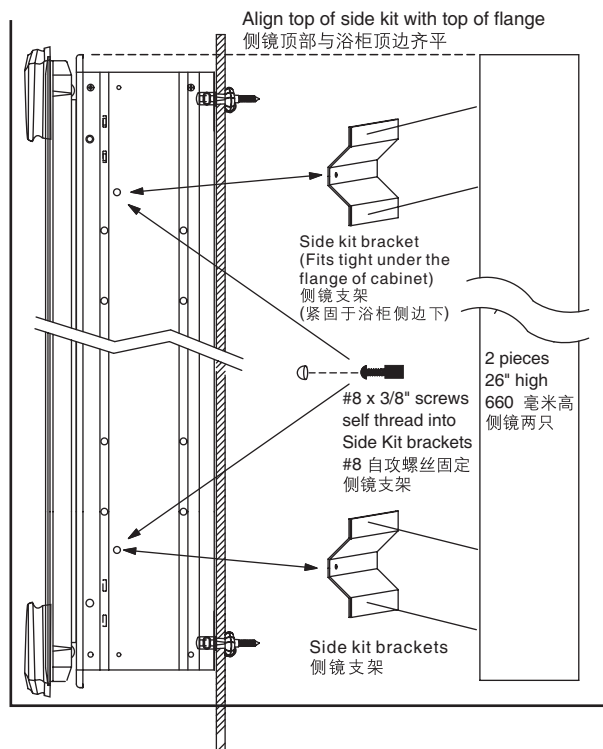

Fig. 8 图8
- Attach the side kit brackets to the cabinet as shown in Fig.8
- 如图8所示安装侧镜支架。